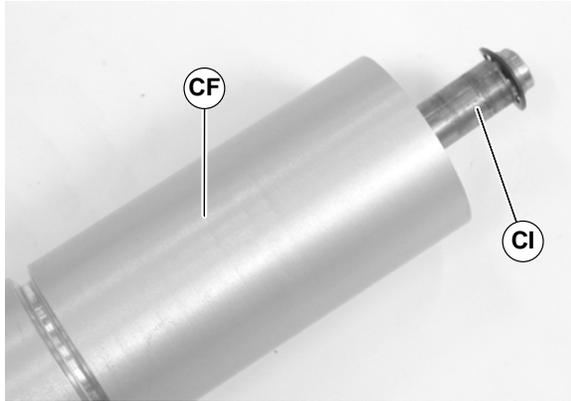

Figure 92
7. Slide the shaft assembly (CI of Figure 92) out of the pulley (CF).